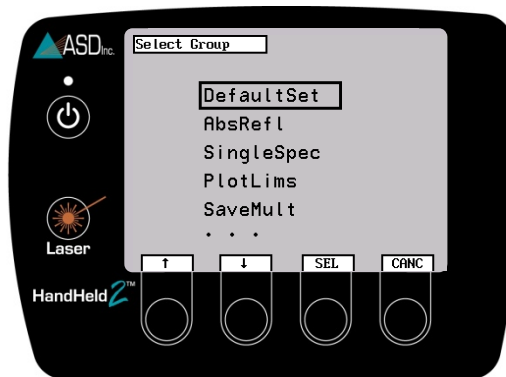

Figure 2-16: Select Group
- Step 2 Navigate to the Group labeled DefaultSet with the up and down arrow buttons, and press the SEL button (Figure 2-16). (Or cancel out of the screen by pressing the CANC button.)